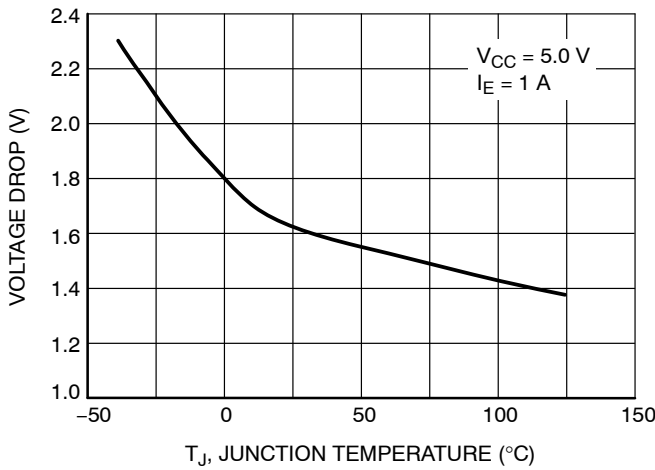

Figure 7. Emitter Follower Configuration Output Darlington Switch Voltage Drop vs. Temperature
9.  $V_{SWCE}$  – Darlington Switch Collector to Emitter Voltage Drop, refer to Figures 7, 8, 9 and 10.